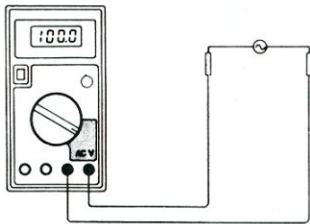

Fig. 5-2 AC Voltage measurement.
2. Set FUNCTION switch to the AC V range to be used, and connect the test leads across the source or load under measurement. See Fig. 5-2.